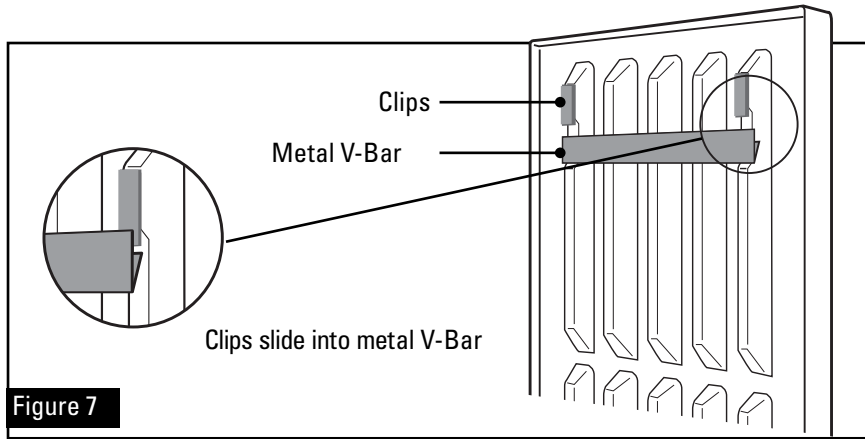

Figure 7
- Continue to hang the panels included with your kit as shown in Fig. 7 and 8. Note that placement of the additional wall panels is not hyper-critical. More specifically, it is the total square footage of absorptive/diffusion panels that counts toward an acoustic balance within your room.